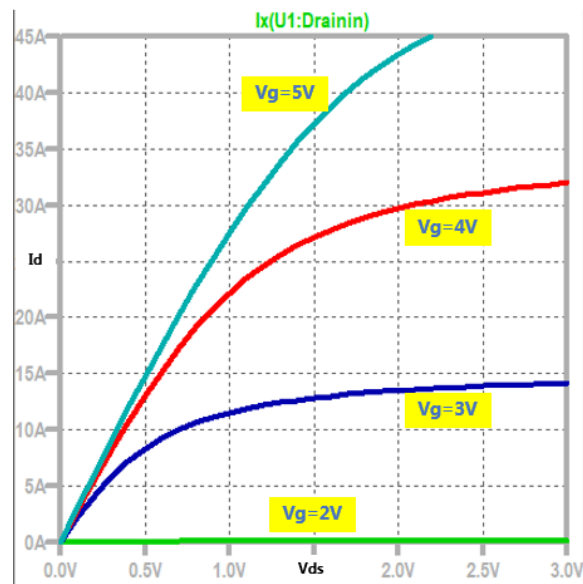

Fig. 5. InnoGaN output LTspice simulation result
4. **Set simulation parameters and run.** Set the simulation parameters according to the simulation requirements. The simulation results of the device output curve are shown in Figure 5 below.